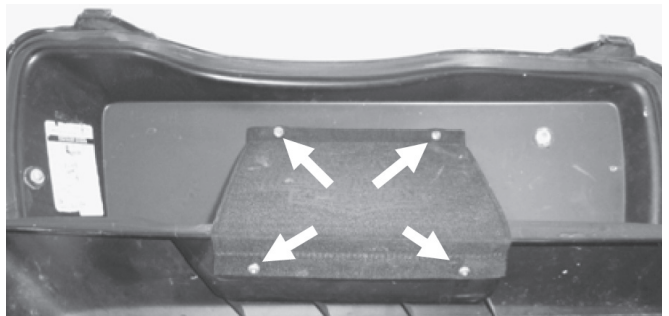

Figure 1.3
1. Remove the 4 screws highlighted with white arrows in Fig 1.3 that hold the cloth tether in place. With the tether off, slide one of the metal bars out from inside the tether, as it will be used for the new lid.